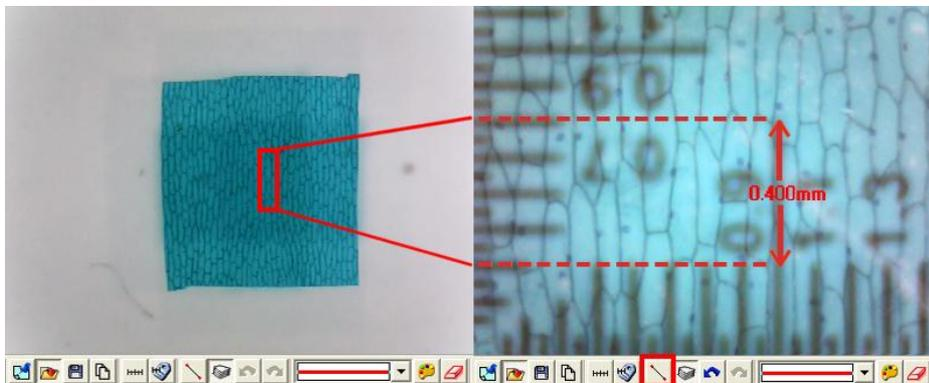

Fig.5-34 The Cross
- c. Cross: The main purpose for the Cross is to calibrate the program and also as a measurement. The Cross (See above chart c) has 3 kinds of units as 0.05mm, 0.1mm and 1mm scale. It will measure 0.05mm, 0.1mm at high magnification and 0.1mm, 1mm at low magnification. The Cross can measure the Length and Width accurately, ie.: Fig.5-34, Measure the length of the onion cell as the red rectangle which is approximate 0.400mm.